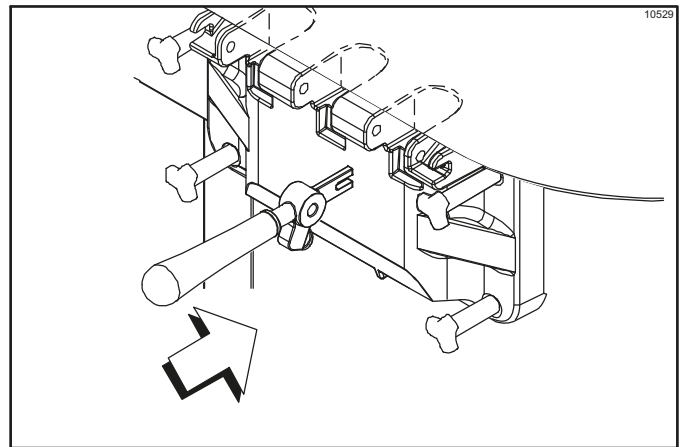

Figure 6-15
22. Position each draw handle with the adjustment screw facing down. Slide the fork of each draw handle into the slot of each draw valve, starting from the right. (See Figure 6-15.)